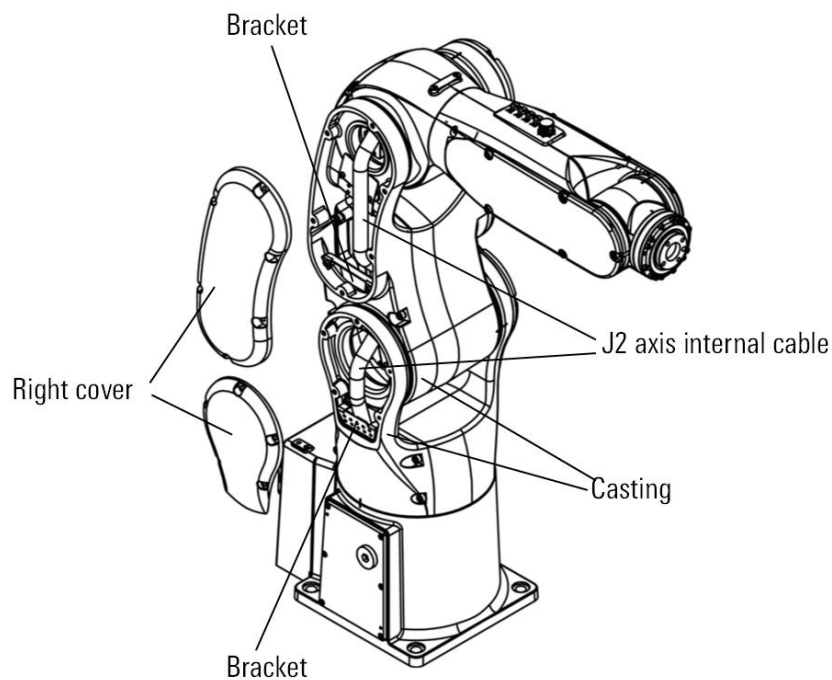

Figure 10-2 J1, J2 axis internal cables
- Step1.Remove the right cover, as shown in Figure 10-2, and pull out the internal cables of the J1 and J2 axes.